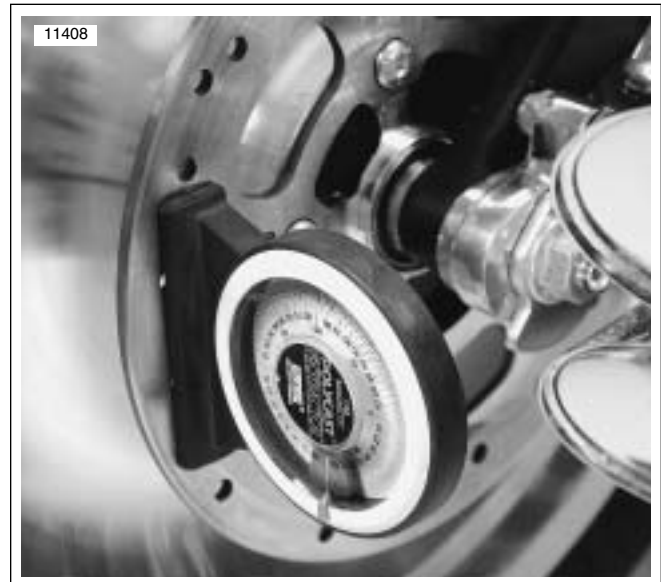

Figure 2-99. Measuring Vertical Alignment (typical)
6. See Figure 2-99. Measure vertical alignment by placing an inclinometer vertically on front and rear brake discs. Front and rear lean angles should be equal within +/- 1/2 degree.